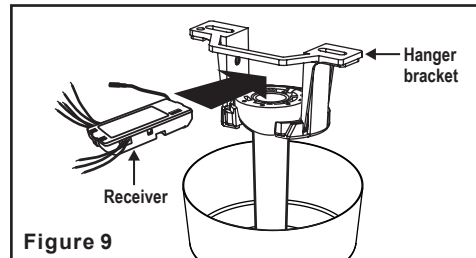

Figure 9
Step 1. Insert the receiver into the mounting bracket with the flat side of the receiver facing the ceiling. (Fig. 9)